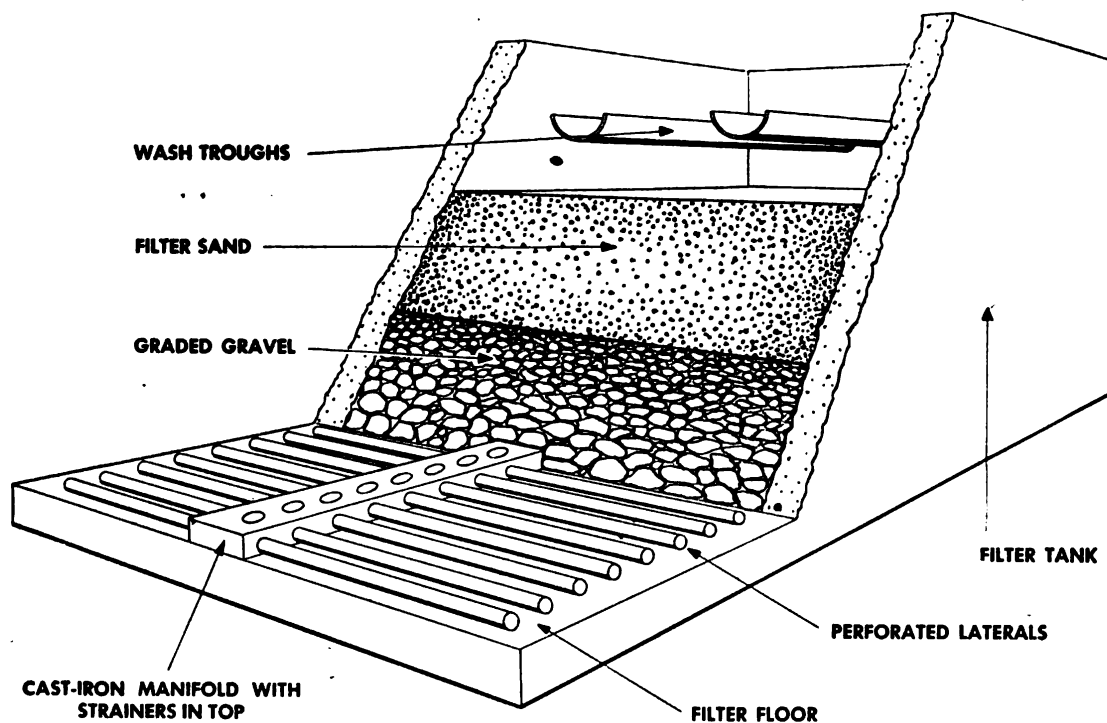

Figure 55. Cut-away view of gravity sand filter, showing underdrains and filter bed.
a. GENERAL. The filtering medium of a rapid-sand filter (fig. 55) consists of sand or anthraflit supported on a gravel bed. For satisfactory filtration, this filtering medium must be kept free from dirt, hard spots, mud balls, or objectionable incrustation.